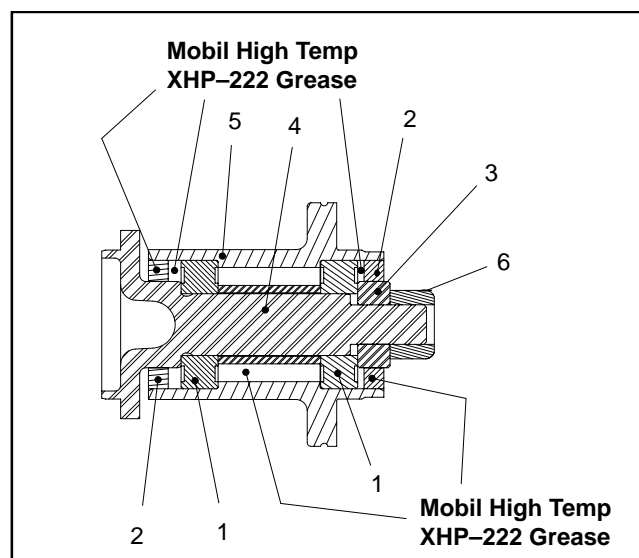

Figure 17
1. Assemble hub/spindle assembly (Fig. 17):
2. Position traction drums to hub/spindle assembly. Secure each traction drum to hub/spindle with four (4) cap screws and lock washers. Torque cap screws **100 in-lb (11.3 N-m)**.